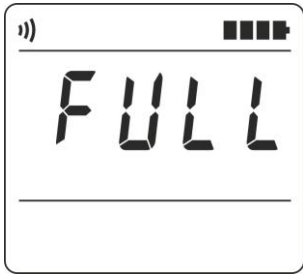

Figure 2.7 – LCD of the radiometer
2.3.3.6.26 If "FULL" characters are displayed on the LCD of the radiometer after you press SAVE button (Figure 2.7), there is no free space in the nonvolatile memory of the radiometer, and, correspondingly, the next measurement results cannot be saved.